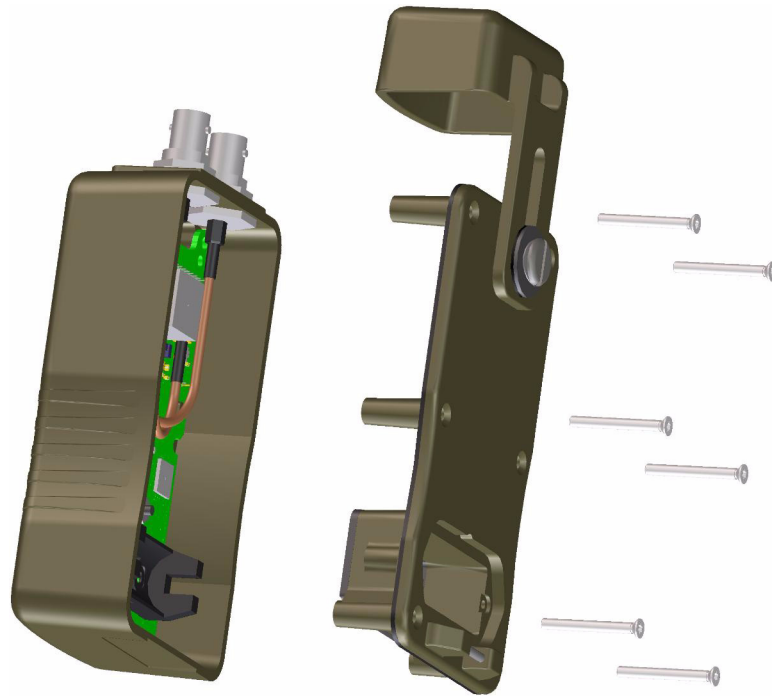

Figure 2 Rear Cover Screw Locations
- 2 Slide the BNC connector protective cap all the way up and remove the cover. Refer to Figure 2.
- 2 Install six (p/n 0515-1862) M3 screws and torque to 8-inch pounds using a T10 driver. Refer to Figure 2 on page 23.